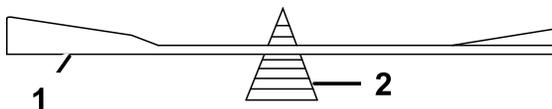

Figure 62
- Check the balance of the blade by putting it on a blade balancer (Figure 62).